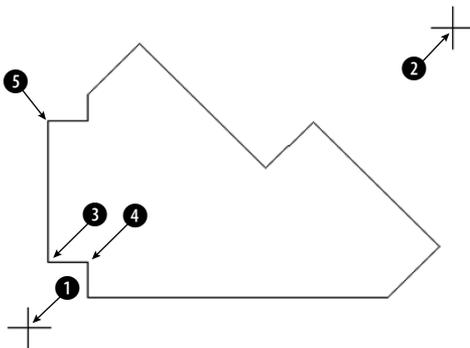

Figure 16-39: An unfolded sheet-metal stemplate.
2. Save the file as `ab16-09.dwg` in your AutoCAD Bible folder. This is a sheet metal template as shown in Figure 16-39.
3. Make a photocopy of Figure 16-39 and tape it to the active area of your digitizer.
Digitize point #1: Pick ① in Figure 16-39.
Digitize point #2: Pick ② in Figure 16-39.
7. In Figure 16-39, pick ③ with the digitizer, then ④, and then each line endpoint in turn counterclockwise around the figure.
8. After you reach ⑤, do not digitize point ① again. Instead, type `c` ↵ to close the figure exactly.